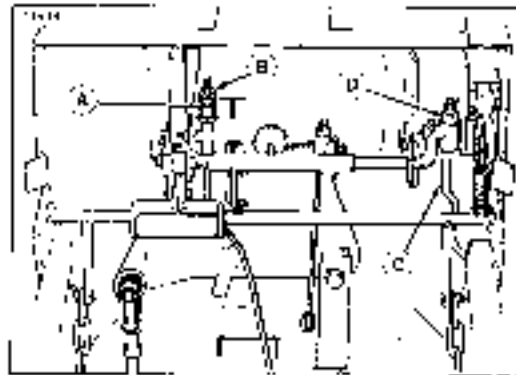

Figure 42 Hydro Models
2. The clutch rod spring (A, figure 42) should measure 1-3.15" (27.5-16.0) and the clearance between my disc of washers. To adjust, tighten or loosen the nut (B).
3. Pull the brake rod (C) toward front as far as possible. Tighten or loosen the nut (D) to achieve a gap of 3/8" inch between rear surface of nut and the guide that rod extends through.